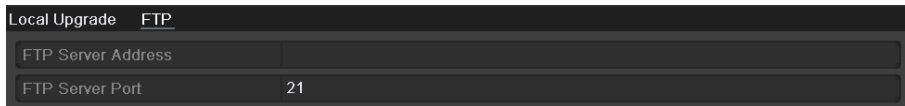

Figure 14-8 FTP Upgrade Interface
Step 2 Click the **FTP** tab to enter the **Local Upgrade** interface, as shown in Figure 14-8.